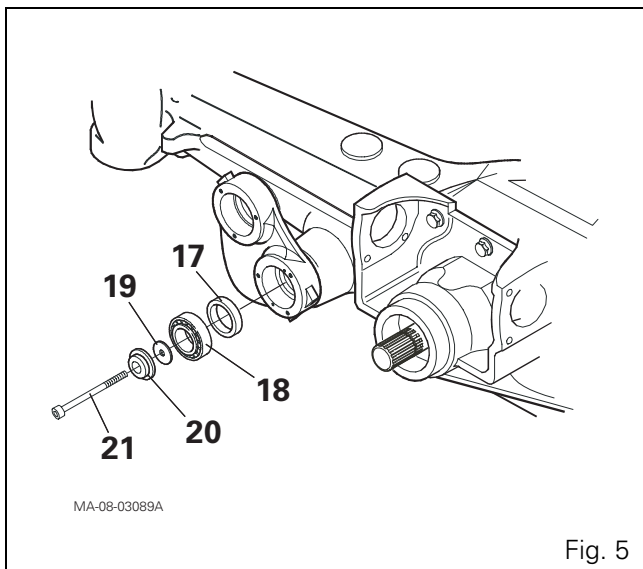

Fig. 5
5. Remove screws (21) from the arm pin bearings and retain the corresponding thrust washers (20), as well as any shims (19) (Fig. 5).
Remove bearings (18) and seals (17) (Fig. 5).